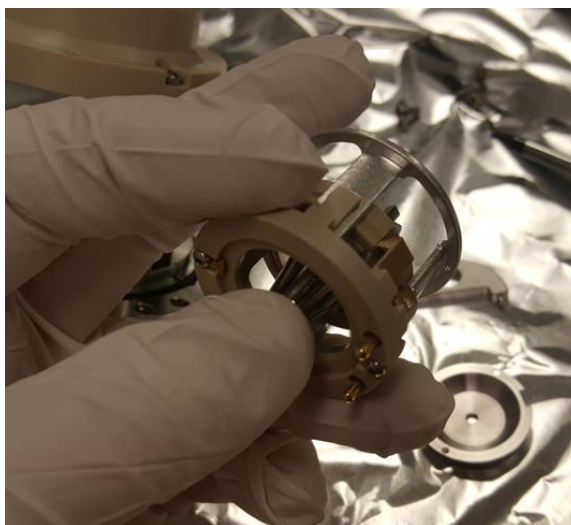

Figure 115: Removing Q00 from cage assembly
- 12) Using your thumb, push on the tapered side of Q00 to remove it from the cage holding it. See Figure 115: Removing Q00 from cage assembly. This step takes a fair bit of force. Do not drop Q00.